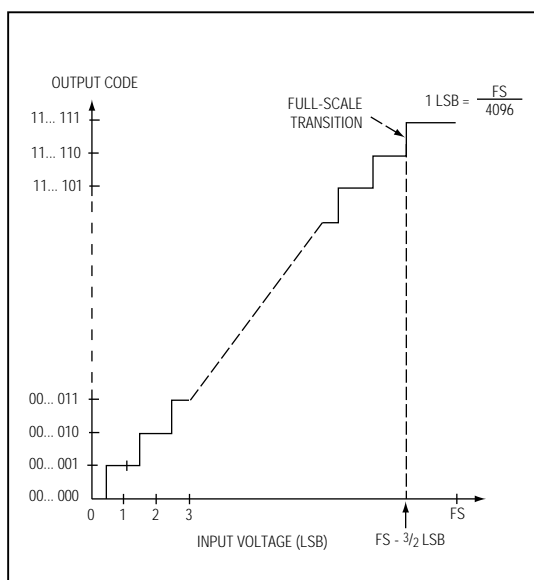

Figure 10. Unipolar Transfer Function
Output data coding for the MAX196/MAX198 is binary in unipolar mode with  $1\text{LSB} = (\text{FS} / 4096)$  and two's complement binary in bipolar mode with  $1\text{LSB} = [(2 \times |\text{FS}|) / 4096]$ . Code transitions occur halfway between successive-integer LSB values. Figures 10 and 11 show the input/output (I/O) transfer functions for unipolar and bipolar operations, respectively. For full-scale (FS) values, refer to Table 1.